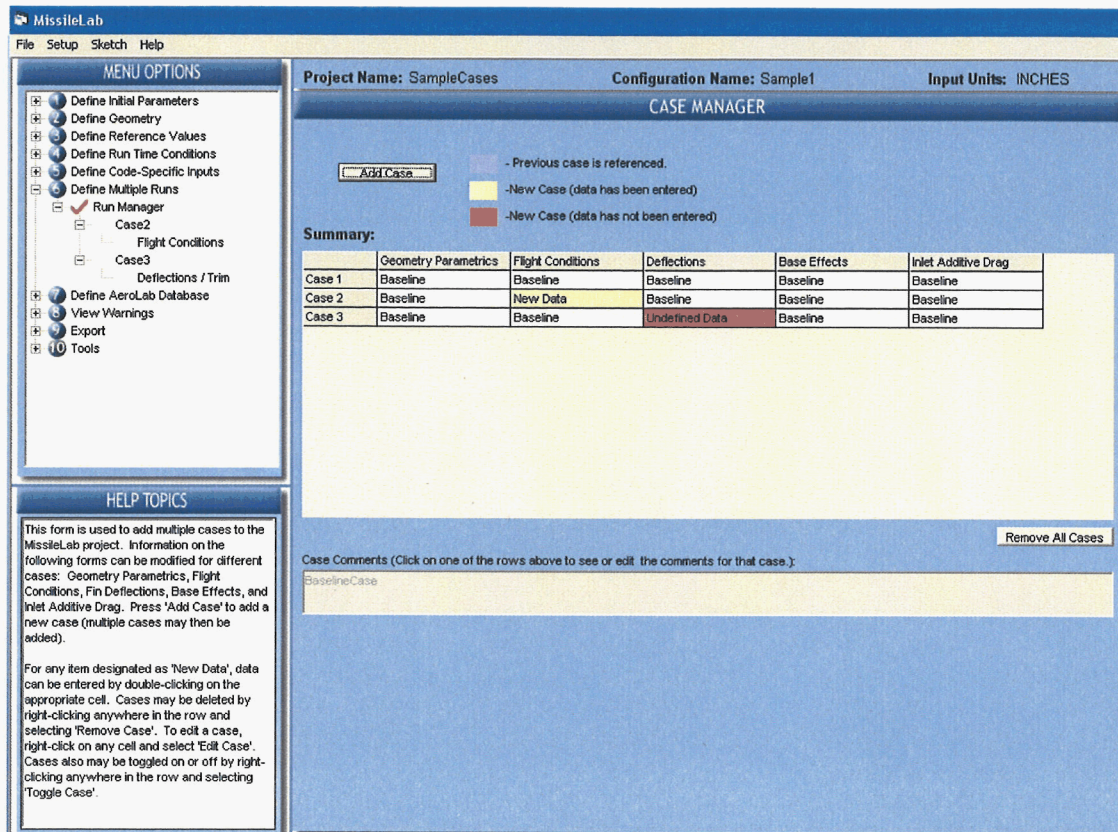

Figure 45. Multiple Run Case Manager Screen
Run Manager Screen: The “Multiple Runs” case manager screen is presented in Figure 45. In designing this screen and functionality, the question that must be addressed is: “what do we allow the user to change for a specific project configuration file?” Using the guidelines set out in Section I, it was decided that for a given configuration, the user should have control over (1) body build-up, (2) flight conditions, (3) control deflections, (4) power-on/power-off base drag, and (5) inlet drag. If, for example, the MissileLab user needs to change the wing geometry, this should be done by making a copy of the MissileLab geometry file (*.MNL) and then modifying the wing in that file. If, however, the MissileLab user wants to make various control deflection runs (for the given airframe geometry), then that will be handled by the case manager as shown in Figure 45
Once the baseline geometry is defined, the user may add multiple cases (by clicking on the “Add Case” button), select what will change for that case, and then enter the new data. The data for the new case will be initialized with the data from the baseline case. To enter the new data, the user can “double-click” on the appropriate “Undefined Data” cell in the grid (likewise “double-clicking” on a “New Data” cell will allow editing of the data). In addition, the cases will be added to the Menu Options tree under Run Manager (as seen in Fig. 45), and selecting them works just like clicking on any other “Menu Option” item. When additional cases are defined, MissileLab LOCKS the baseline geometry to prevent the user from inadvertently modifying the baseline data. When this occurs a red “KEY” command button appears in the upper left of each screen. Clicking on this button will unlock the screen and allow the user to modify the baseline configuration data.